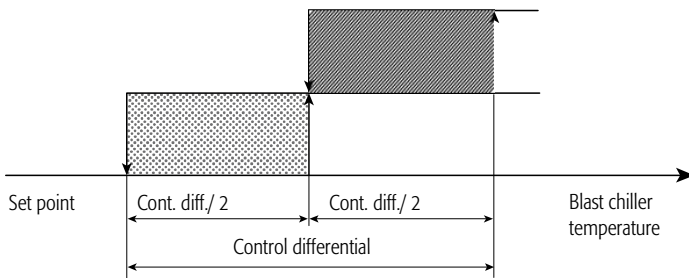

Fig. 4.4 Temperature control with second phase.
- if on the other hand parallel operating mode has not been selected, then temperature control follows the diagram in Fig. 4.4; the differential for each phase is half of the control differential, while the set point for the second phase is equal to the control set point plus half of the control differential.